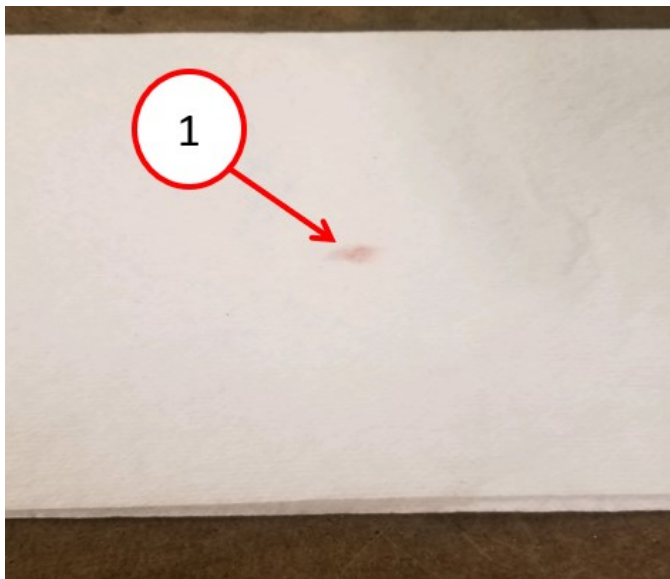

Fig. 3
8. Is red fluid found on the cloth or sheets of paper towel after wiping the weep hole Fig. 3?